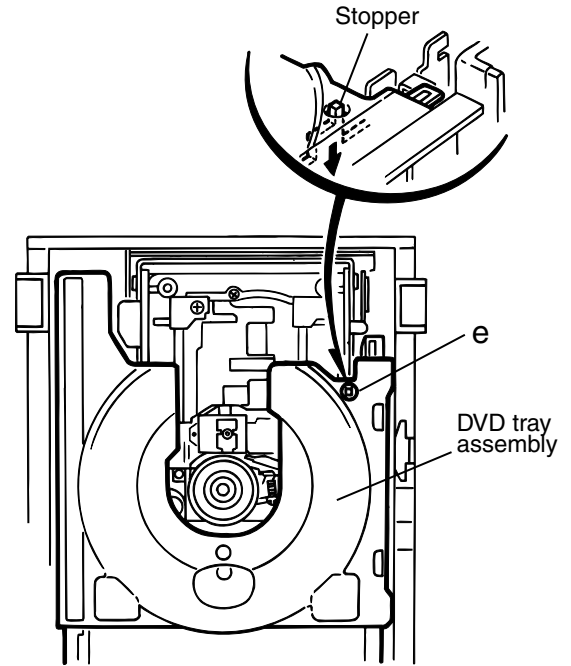

Fig.5
8. Check whether the lifter unit stopper has been caught into the hole at the section **e** of DVD tray assembly as shown in Fig.5.